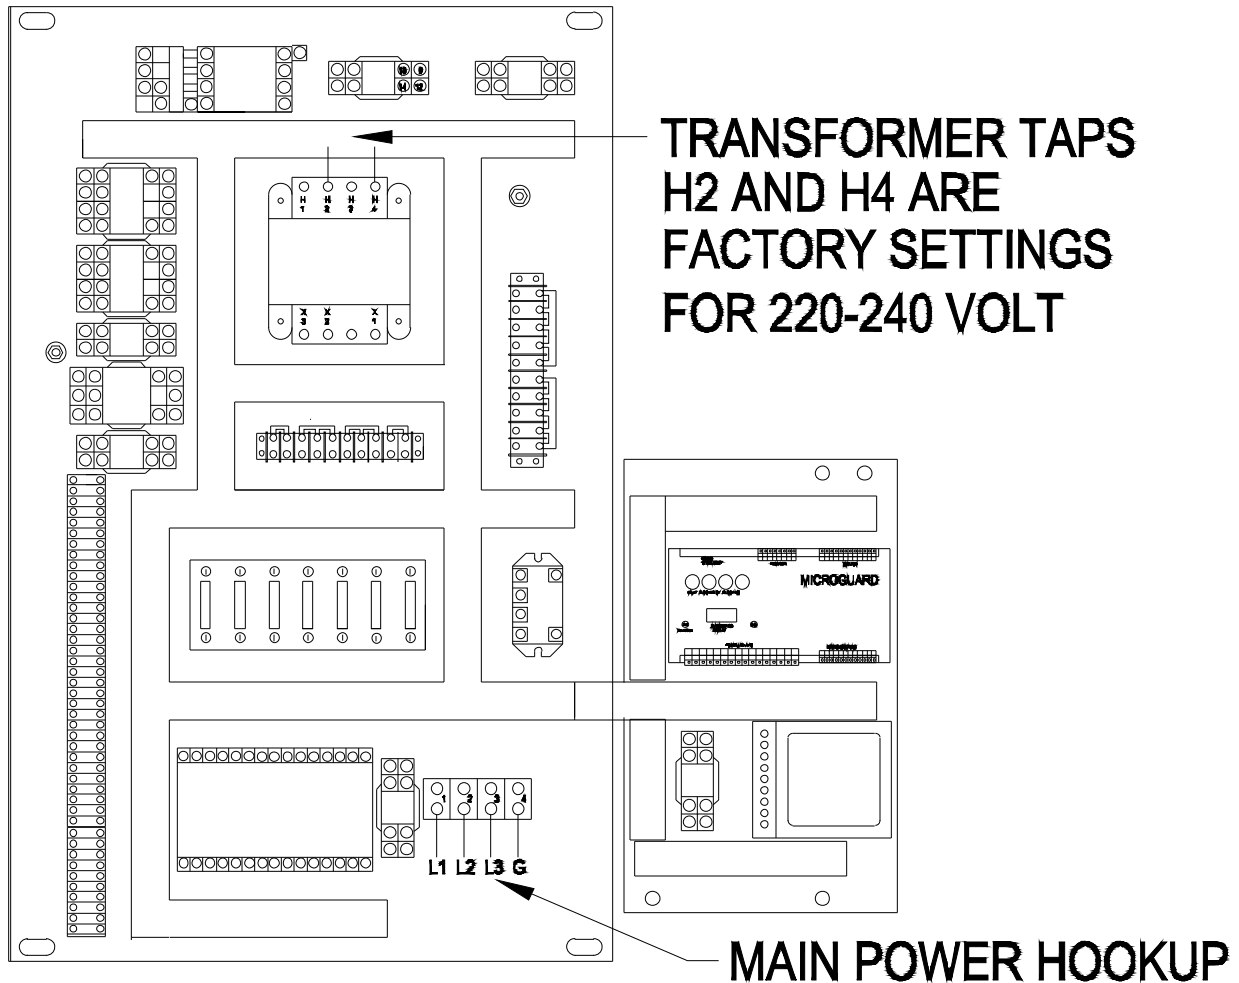

Fig. 3
To check to see if you have a proper ground, you must physically follow the ground wire hooked to the #4 terminal in the cutter electrical box to the disconnect, breaker panel or panels, and then finally to the ground rod. Fig. 3.
All power requirements are to be measured using a voltage meter from L1 to L2, L2 to L3, and L1 to L3. This must be done BEFORE the cutter is turned on. Fig. 3.
The cutter is shipped with the wires on the H2 and H4 taps. This is sufficient for voltage from 220 volt to 240 volt. If the voltage is below 220 volt and higher than 200 volt then move the wire at H2 to H3. Fig. 3.
Use a voltage meter and check the line to ground on all three (3) lines. Fig. 3. If all lines are within five (5) volts of each other then do not switch any wires. If one leg is much higher than the others then Lock Out the disconnect and place that line at L3. Turn the power on and recheck.
Turn the Power Selector to On and allow the MPS to reset. Push the two (2) black cut buttons to start the hydraulic motor. Press the Soft Clamp Pedal and the clamp should drop to the table, then release and the clamp should rise up. If it does not then the motor rotation may be wrong (Three Phase Only. Single Phase is factory set for rotation.). Lock Out the disconnect and switch the wires at L1 and L2. Fig. 3. Turn the power on and recheck.
To physically check motor rotation some motors have an end cover that can be removed to expose the shaft. The shaft when viewed from the top down should turn clockwise. Lock Out the disconnect and switch the wires at L1 and L2. Fig. 3. Turn the power on and recheck.